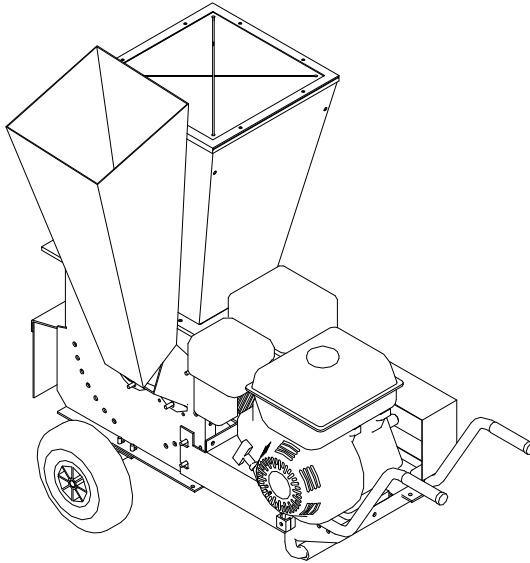

Fig. 11
Use the side hopper (fig. 11) for working large size material (branches of up to 7 cm diameter).
- Fold the chaff cutter hopper (fig. 11) immobilising it with wing nut 1.